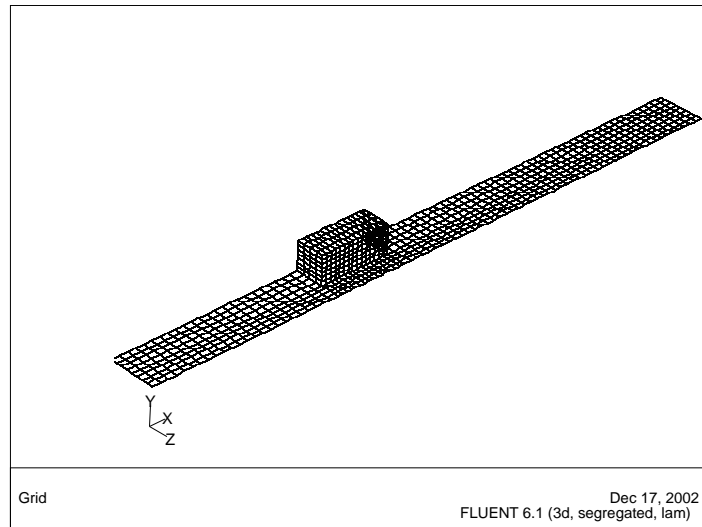

Figure 22.2: Graphics Display of the Chip and Board Surfaces
2. Use your left mouse button to rotate the view, and your middle mouse button to zoom the view until you obtain an enlarged isometric display of the circuit board in the region of the chip, as shown in Figure 22.2.